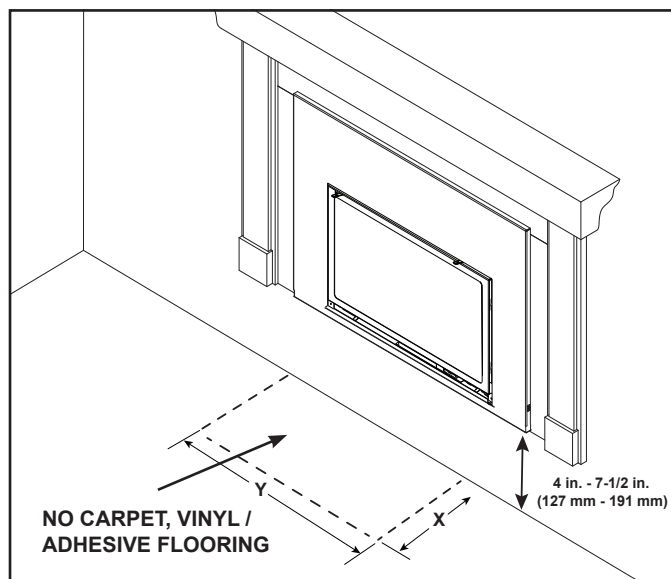

Figure 3.16 Hearth - Combustible Material Acceptable
- When the appliance is raised off the floor 4 inches (102 mm) or more, combustible flooring in front of the appliance is acceptable. Exception, no carpet, vinyl or adhesive flooring when appliance is between 4 inches (102 mm) - 7-1/2 inches (191 mm) off the floor. See Figure 3.16.